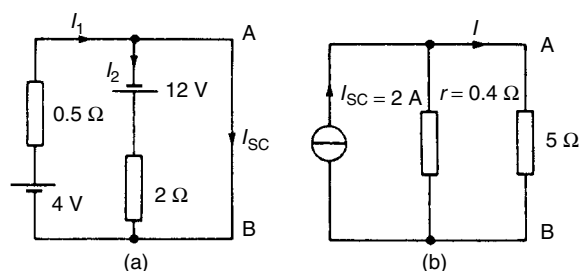

Figure 13.58
- (i) The $5\ \Omega$ branch is short-circuited as shown in Fig. 13.58(a)
- (ii) From Fig. 13.58(a),
- (iv) From the Norton equivalent network shown in Fig. 13.58(b) the current in the $5\ \Omega$ resistance is given by: